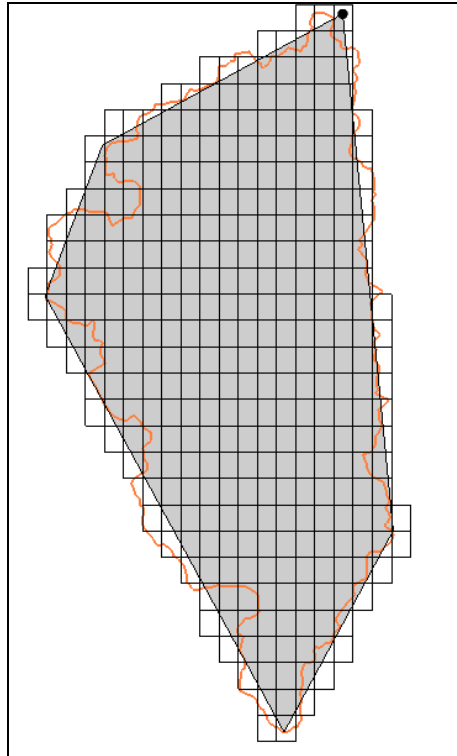

Figure 20 UGrid created in area of conceptual model
4. Accept the defaults for everything else and click **OK** to close the *Map* → *UGrid* dialog. The project should appear similar to Figure 20.